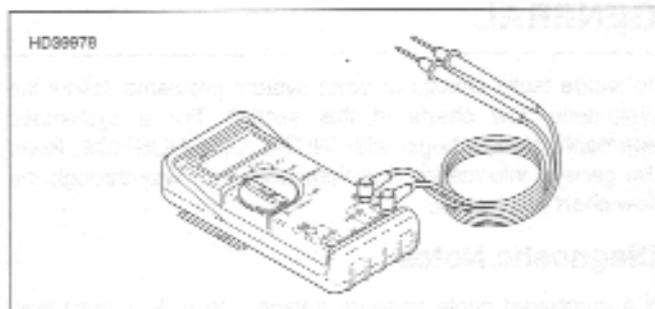

Figure 4-11. Fluke 78 Multimeter (DVOM) (Part No. HD-39978)
1. See Figure 4-11. Connect DVOM (Part No. H-D-39978) to wiring harness between the suspect connections. When diagnosing ECM connections, a BREAKOUT BOX (Part No. HD-42682) may be used to simplify the procedure. See 4.6 BREAKOUT BOX.